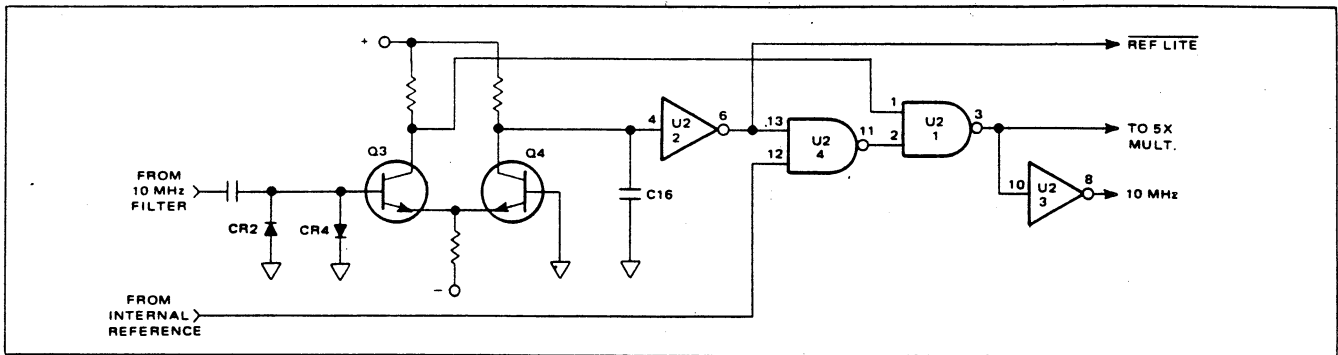

Figure 4.16 - Switch/Gate
4.4.5.5 The gate, shown simplified in figure 4.16, consists of two differentially coupled transistors (Q3 and Q4) and three segments of a quad dual input Nand gate (U2). Because of the additional diode drop (CR4) between ground and the base of Q3, Q3 is biased off and Q4 is biased on